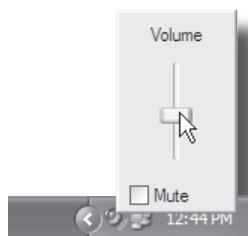

Figure 12
4. Set the volume by clicking the speaker icon in the bottom right hand corner figure 12).